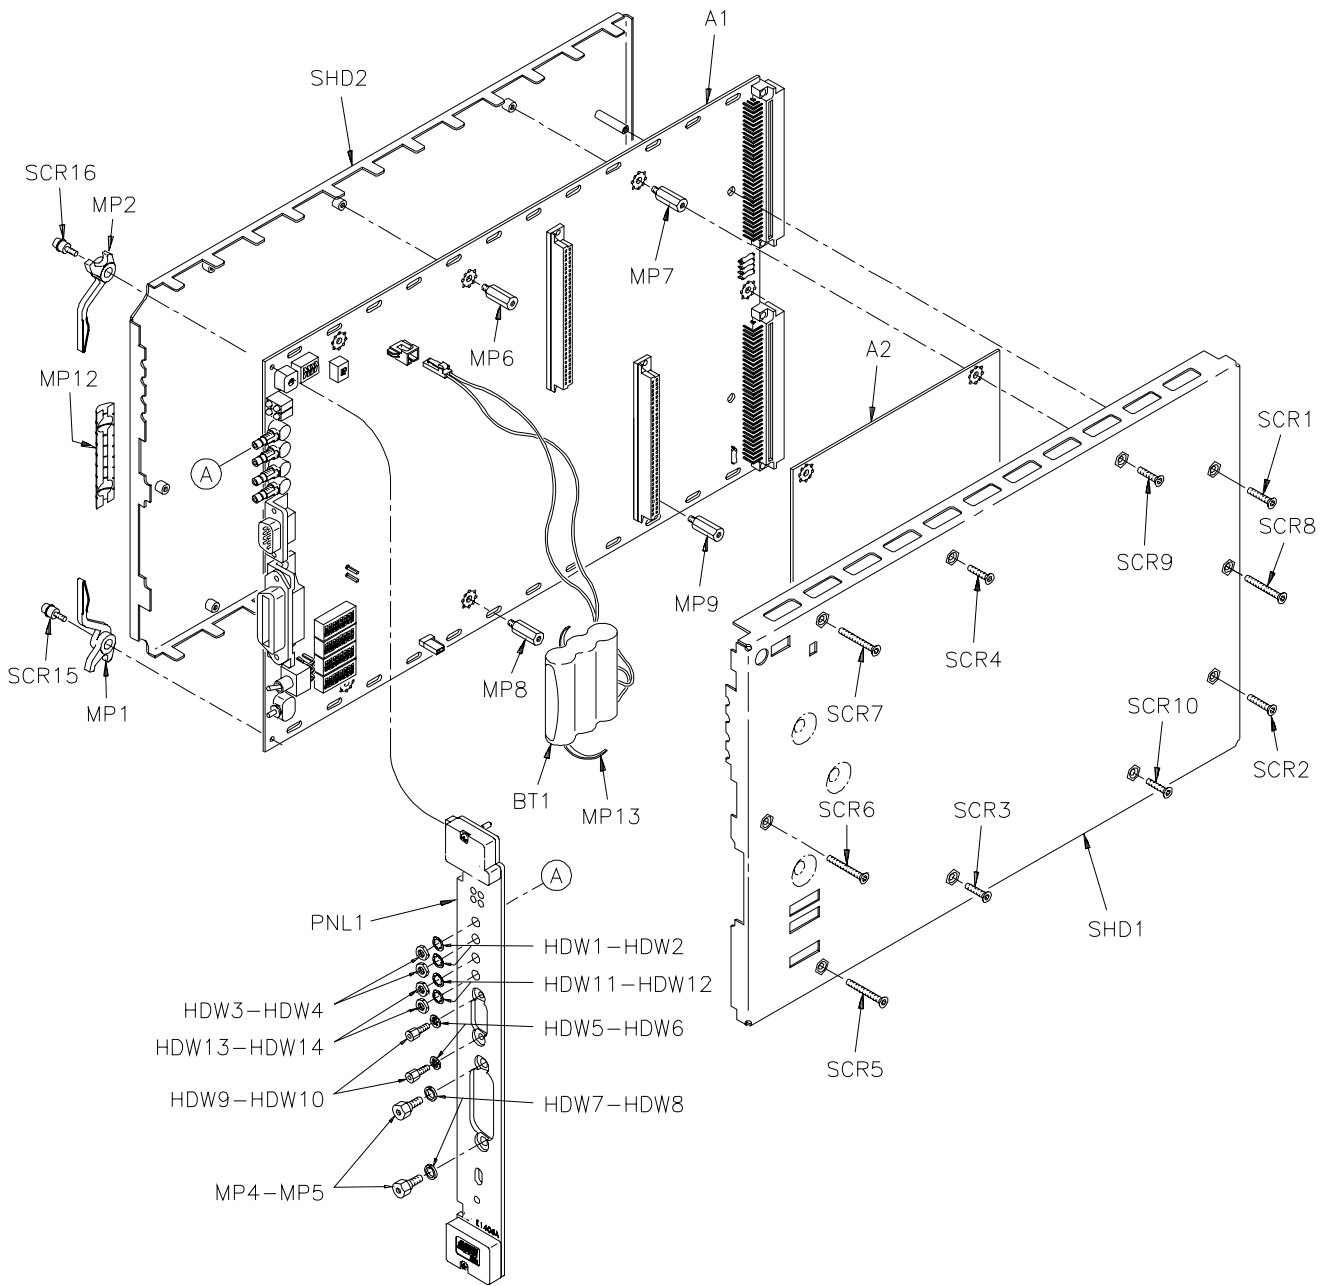

Figure 3-1. Agilent E1406A Replaceable Parts
Table 3-2 lists replaceable parts for the Agilent E1406A Command Modules. See “Component Locators” (Figures 3-1 and 3-2) for locations of parts in Table 3-2. Table 3-3 shows reference designators for parts in Table 3-2, and Table 3-4 shows the manufacturer code list for the parts.
Agilent E1406A HARDWARE PARTS (Fig. 3-1)
Figures 3-1 and 3-2 show locations of selected replaceable parts for the Agilent E1406A Command Module.
- Check fuses, and/or mechanical parts listed in Table 3-2. See Table 4-1 for suggested checks. See Figure 3-1 or 3-2 for component locations.